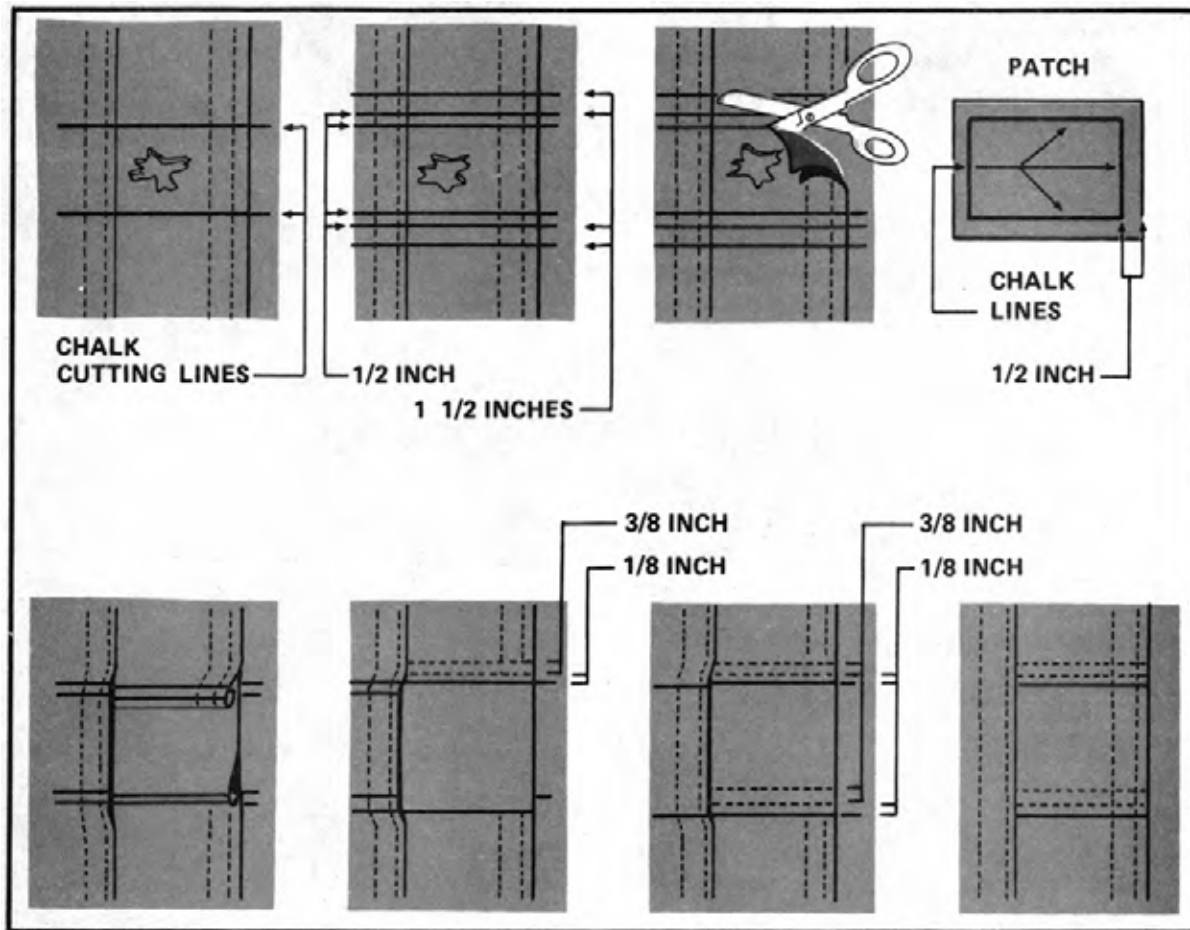

Figure 9-10. Seam-to-seam patch
(4) Seam-to-Seam Patch. A seam-to-seam patch (Figure 9-10) is used to repair damage between two seams. It is sewn in place so that the canvas and patch overlap like the shingles on a roof. This allows water to run off the top and bottom seams of the patch. To make a seam-to-seam patch on a canvas item with doubled-felled seams--